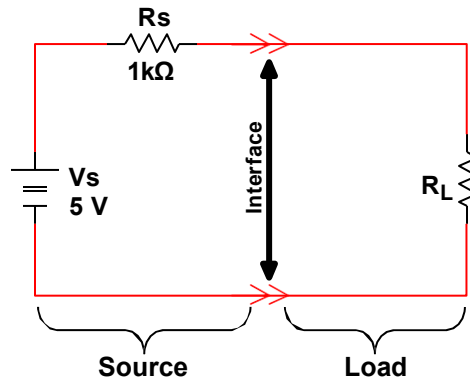

Figure P.1.1 – Problem #1
For the circuit in **Figure P.1.1**,  $V_S$  and  $R_S$  are fixed at the values shown in the schematic.
4. Assume you have a circuit identical to that of **Figure P.1.1**. Assume now that you could not directly measure the voltage across  $R_S$ , and you do not know its value. Assume  $R_L$  was a potentiometer and you set up a DMM to measure the voltage across it. Could you determine the value of  $R_S$ ? If so, **explain** how you would do this.